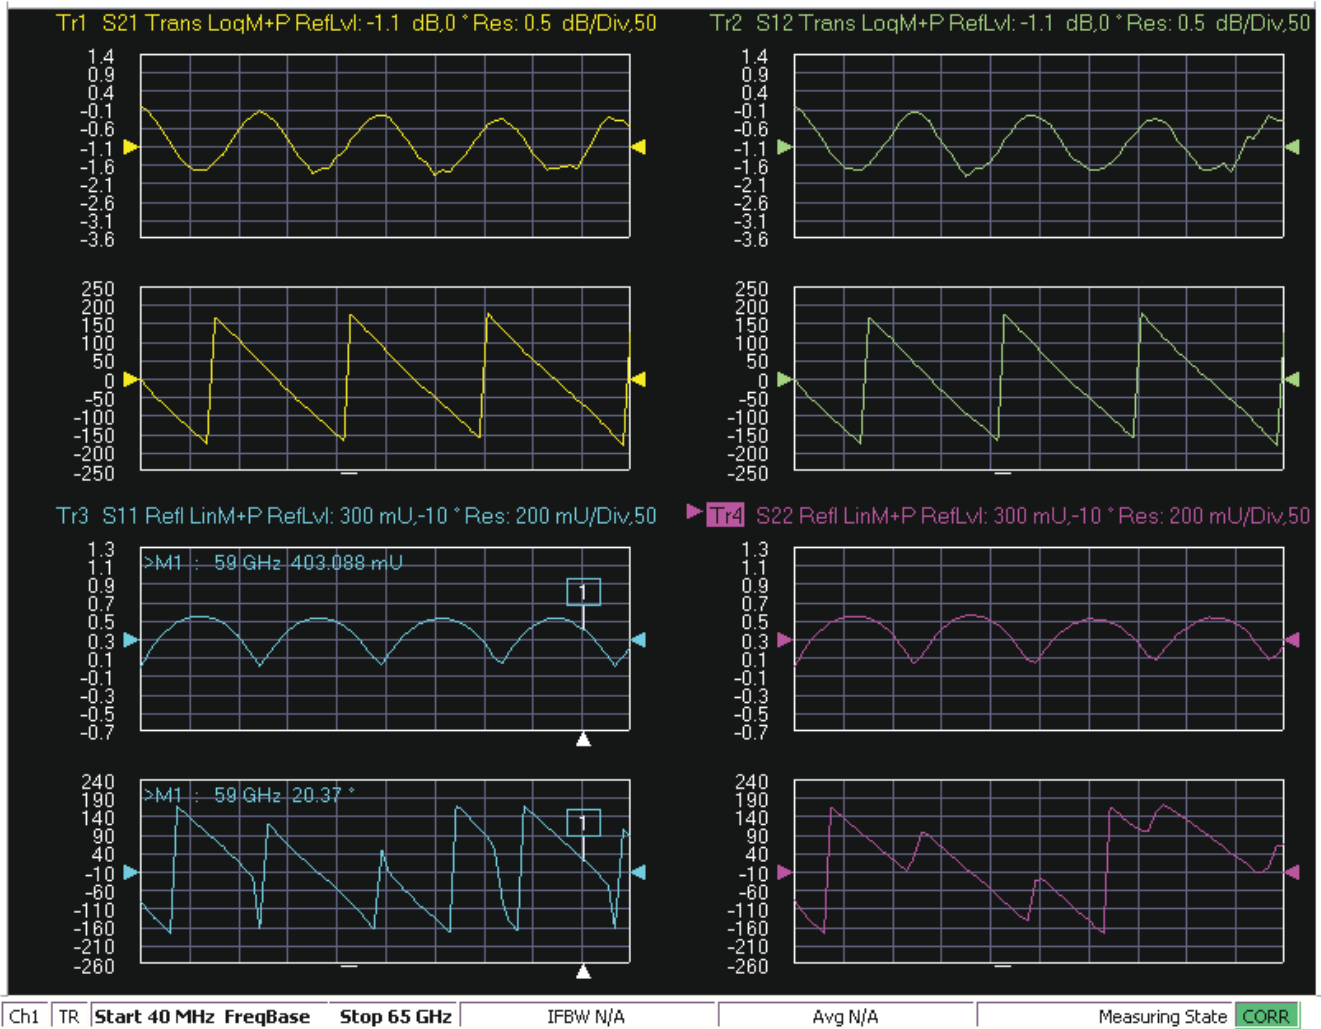

Figure 2-45. MS4640A/B Series VNA, Typical Mismatched Thru Data in Low Band
- When the test completes, the program returns to the main menu described Section 2-9 “Application Interface – Main Menu Tab” on page 2-25 above, and the display should look similar to Figure 2-45 below. This is a typical display immediately after measuring the Mismatched Thru in the Low Band. Please note this is for reference only and that the actual data on the VNA display may not be identical.